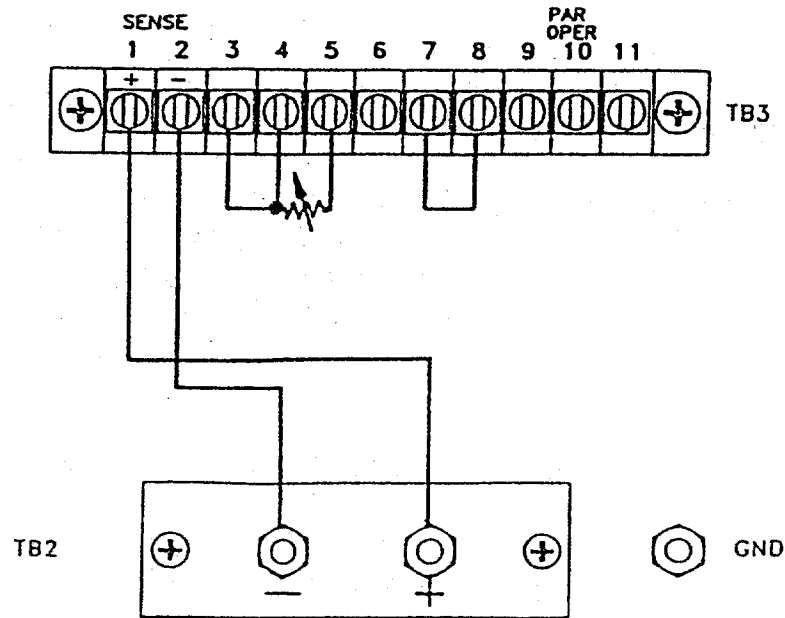

Figure 3-5 Resistance Programming Voltage Mode Connections
3.2.3 Resistance Programming Voltage Mode (Figure 3-5)
2. Remove link between terminals 5 and 6, and connect a programming resistor between terminals 4 and 5 (Figure 3-5). Use shielded or twisted wire for interconnecting leads.